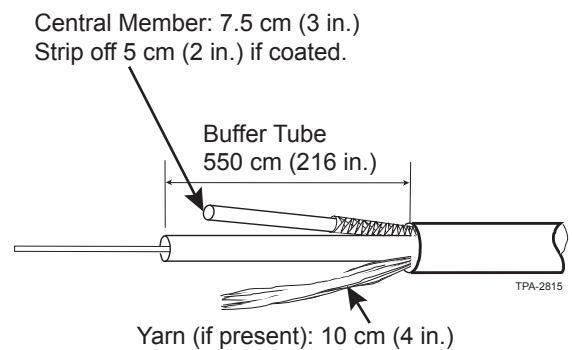

Figure 4 — Cable Strip Lengths
**Step 4:** Install the top two mounting bolts in the wall at the distances specified in Figure 4.
**Step 3:** Remove cable sheath as described in the sheath-removal instructions for the cable you are installing. Suggested lengths (Figure 4) can be altered for particular preferences or specific applications.